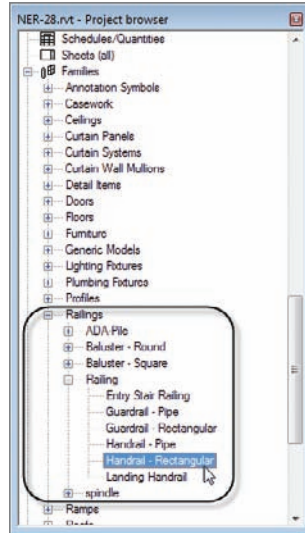

FIGURE 10.58 The railing family called Handrail - Rectangular
1. In the Project Browser, find the Families category and expand it, as shown in Figure 10.58.
3. Find Handrail - Rectangular and double-click it (see Figure 10.58).